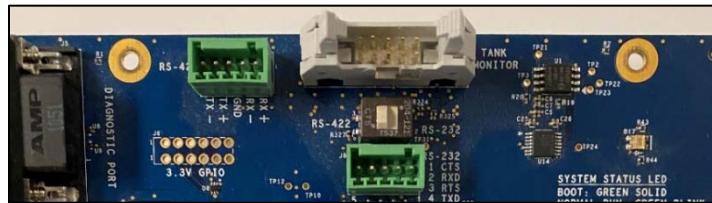

Figure 3 EAPro Connector
- b. If FMLive, connect the 10-pin 191F0234-10 cable to the grey Tank Monitor connector at the top of the EAPro (Figure 3). If utilizing an RS232 connection, ensure the slider below the connector is to the right; if using an RS422 connection, ensure the slider below the connector is to the left.